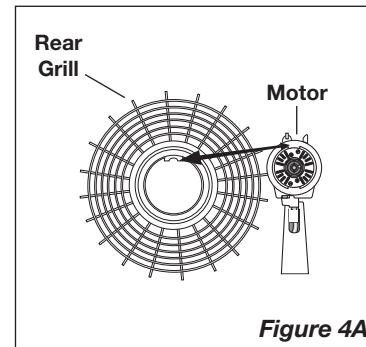

Figure 4A
2. Align tab on **Plastic Rear Grill** with groove on top of front **Motor** cover. (Figure 4A)